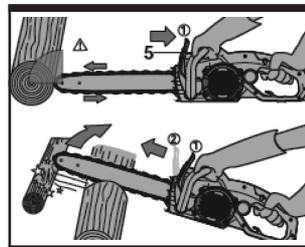

Fig. 18
5. KICKBACK. (See Fig. 18)
Always hold the chain saw firmly with both hands. Front grip with the left hand and rear grip with the right hand. Fully grip both handles at all times during operation. Never operate chain saw using only one hand. Ensure power cord is located to the rear, away from the chain and wood and so positioned that it will not be caught on branches or the like during cutting. (See Fig.18)